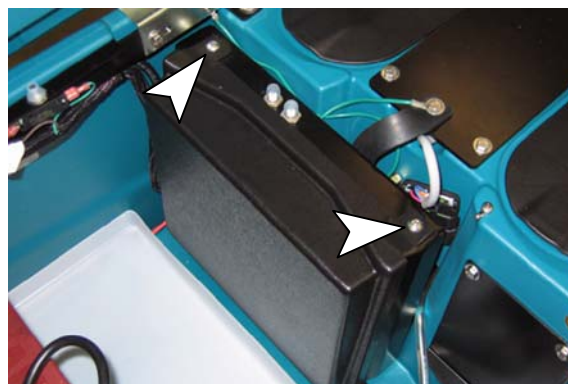

Fig. 2
1. Remove the two screws from the circuit board cover and remove the cover from the circuit board box (Figure 2).